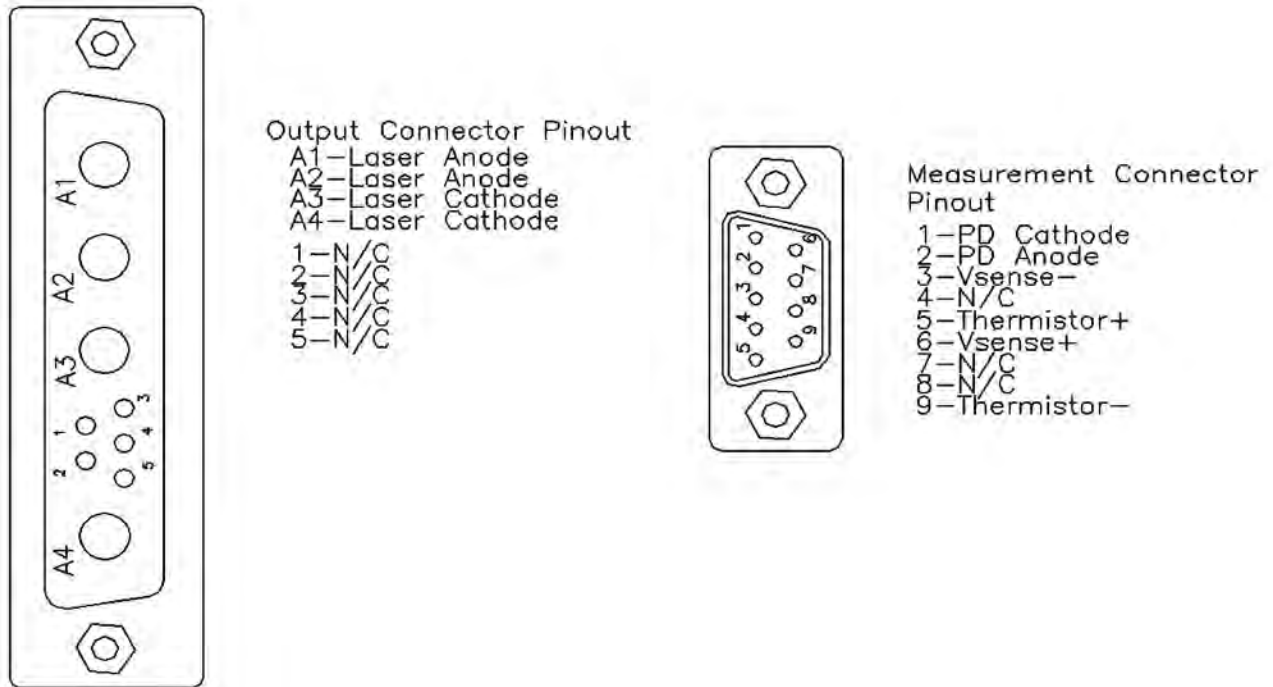
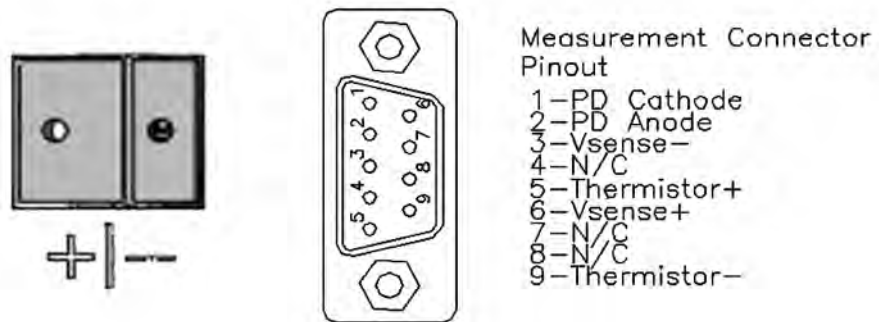

Figure 3.2 LDX-36000 Output and Measurement Connector Pin Assignments, <50A
Figure 3.3 LDX-36000 Output and Measurement Connector Pin Assignments, >50A
For the LDX-36000 Series models, the current source output connector is either a combination D 9W4 connector on models with less than 50A output (CW), Figure 3.2, or high current terminals on models with more than 50A output (CW), Figure 3.3. Laser voltage, photocurrent, and temperature measurement functions are accomplished through a separate 9-pin connector labeled “Sense” directly above the high current output connector.
The LDX-36000 will measure and display forward voltage when the output current is enabled. Voltage measurement is only possible when the voltage sense lines from the rear panel measurement connector are attached directly to the laser diode. If these lines are not used, measurements will always read zero. Voltage measurement through the output cable is not possible. These lines are available on the back panel connector labeled Sense. Refer to Figure 3.2 the pinout.
The photodiode and laser connections are electrically isolated from ground and each other. To measure photocurrent from an external photodiode, the photodiode anode and cathode must be connected to two pins on the back panel 9-pin connector labeled Sense. Refer to Figure 3.2 for the pinout. Shielding of the photodiode connections is recommended to reduce measurement noise. A common connection between the laser anode or cathode and photodiode will cause measurement errors. This condition should be avoided.